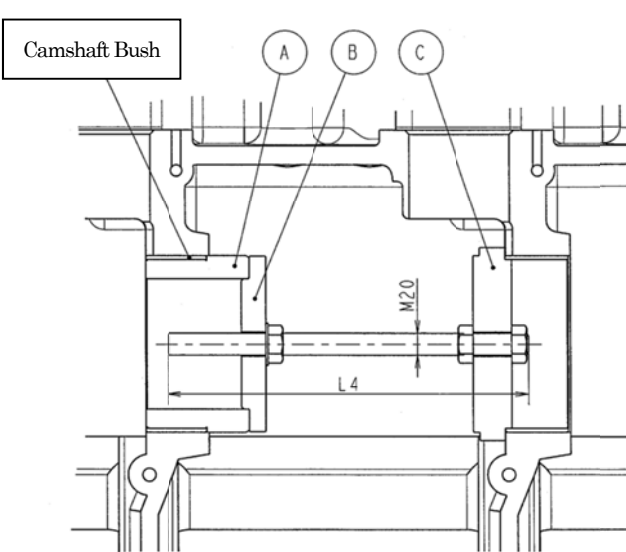

Fig.2 (for extraction).
- 2) Insert Tool A into the camshaft bush and assemble the tool as shown in Fig.2 (for extraction).